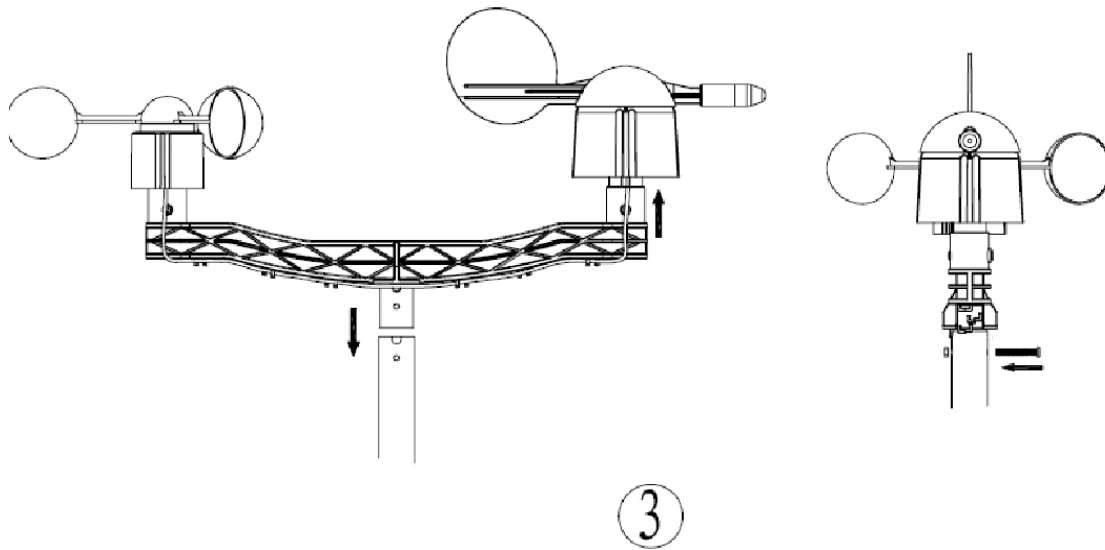

Figure 3
3. Connect the anemometer assembly to the top mounting pole, align the holes, and fasten with short set screw (optional, we recommend NOT connecting this) and long bolt and nut. Tighten with precision screwdriver while securing the nut with pliers, as shown in Figure 3.